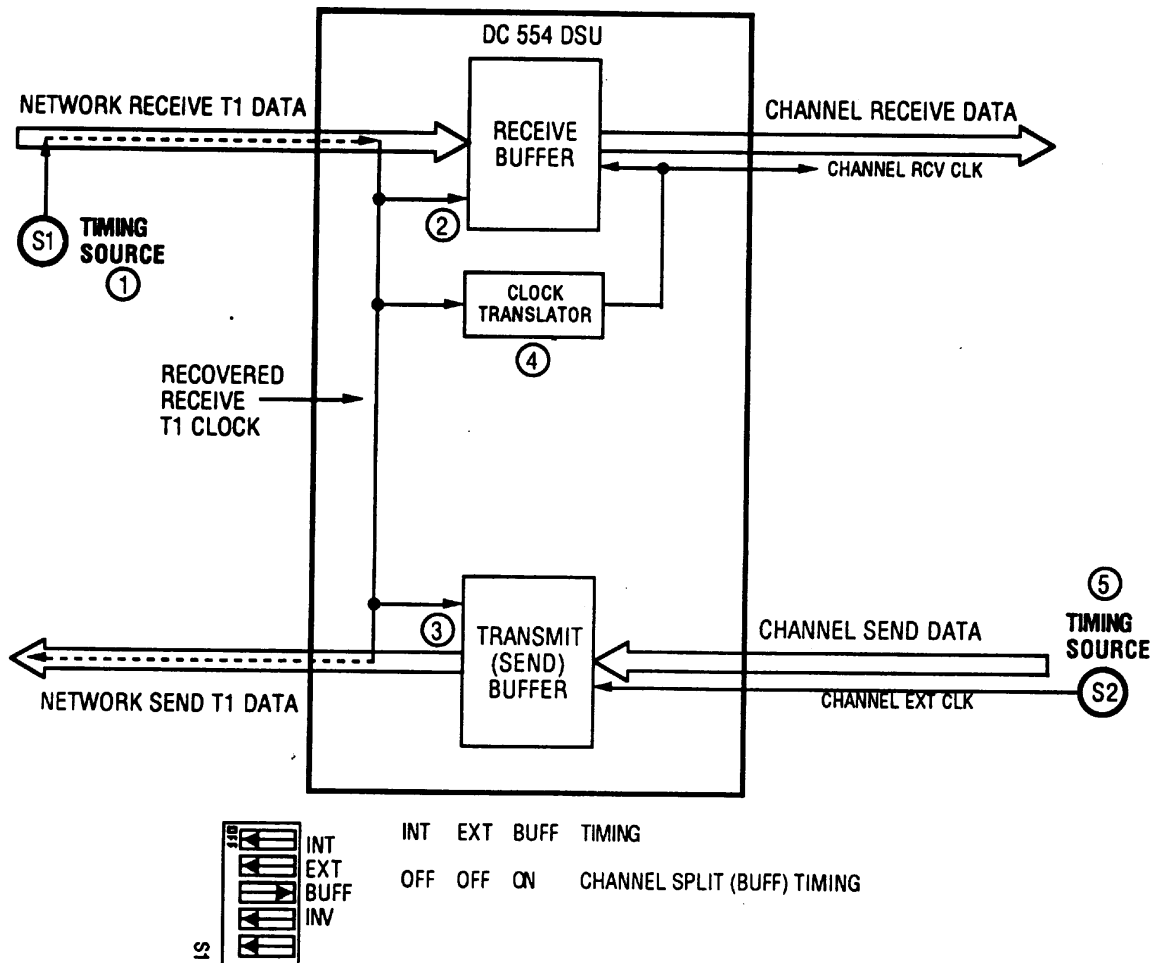

Figure 5-4 Channel Split (BUFF) Timing
Channel Split (BUFF) Timing, illustrated in Figure 5-4, is a combination of Slave Timing and Channel Timing that utilizes two clock sources. As in Slave Timing, the network (or a device at the remote end) provides one timing source (1). The DC 554A DSU recovers the receive T1 clock from the network receive T1 data and uses it to clock T1 data into the receive buffer (2) and to provide the send timing source for T1 data output from the transmit buffer (3) to the network. The DC 554A DSU also translates (4) the receive T1 clock to provide the receive clock signal, on the appropriate interface lead. As in Channel Timing, the customer equipment on the channel interface provides the other timing source, its own channel transmit clock signal (5) on the appropriate interface lead, but the DC 554A DSU uses it for nothing else.